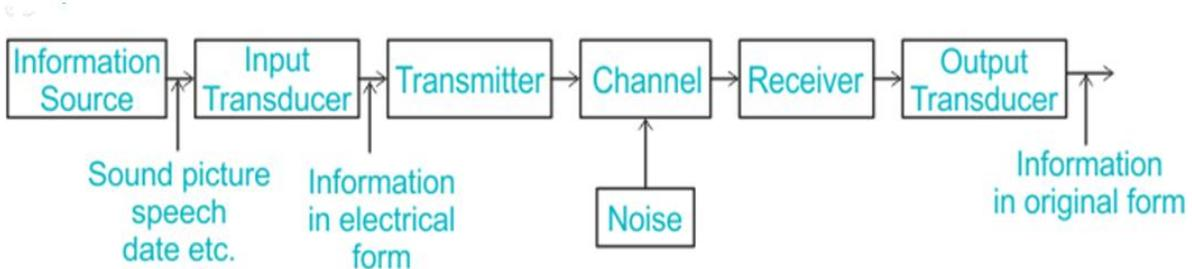

Figure 5.6: Block diagram of Electronic Communication System
- Typical example of communication system are line telephony and line telegraphy, radio telephony and radio telegraphy, radio broadcasting, point-to-point communication and mobile communication, computer communication, radar communication, television broadcasting, radio telemetry, radio aids to navigation, radio aids to aircraft landing etc. **Figure 5.6** shows the block diagram of a general communication system, in which the different functional elements are represented by blocks.